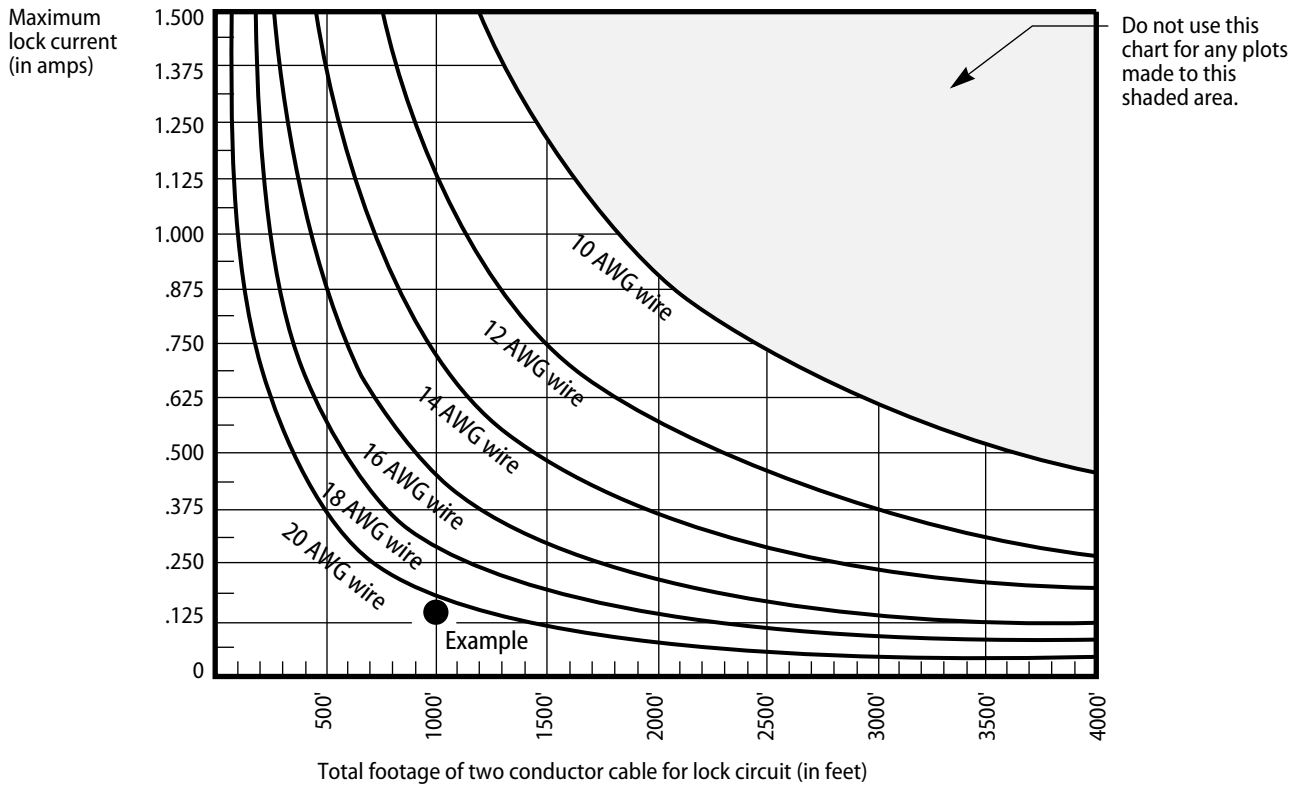

Figure 2—Minimum gauge wire chart for lock circuits
The chart in Figure 2 helps you find the minimum wire gauge needed for a specific length wire run. It assumes that the lock circuit is made of two conductor cable. The chart also factors in a 15% voltage loss at 24 volts.
- 1 Wire gauge (or size) determines how efficiently the lock will operate. Consider wire gauge before installation. To find the recommended minimum wire gauge for all wire runs, see Figure 2.